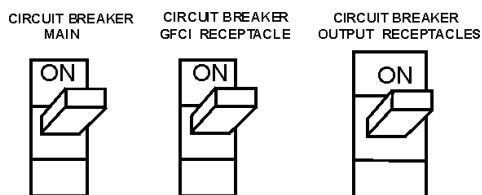

Figure 39. Main and GFCI Circuit Breakers
20. If there are no abnormal problems shown on the "MPEC" LED display, turn the MAIN, GFCI and LOAD circuit breakers to their ON position (Figure 39).